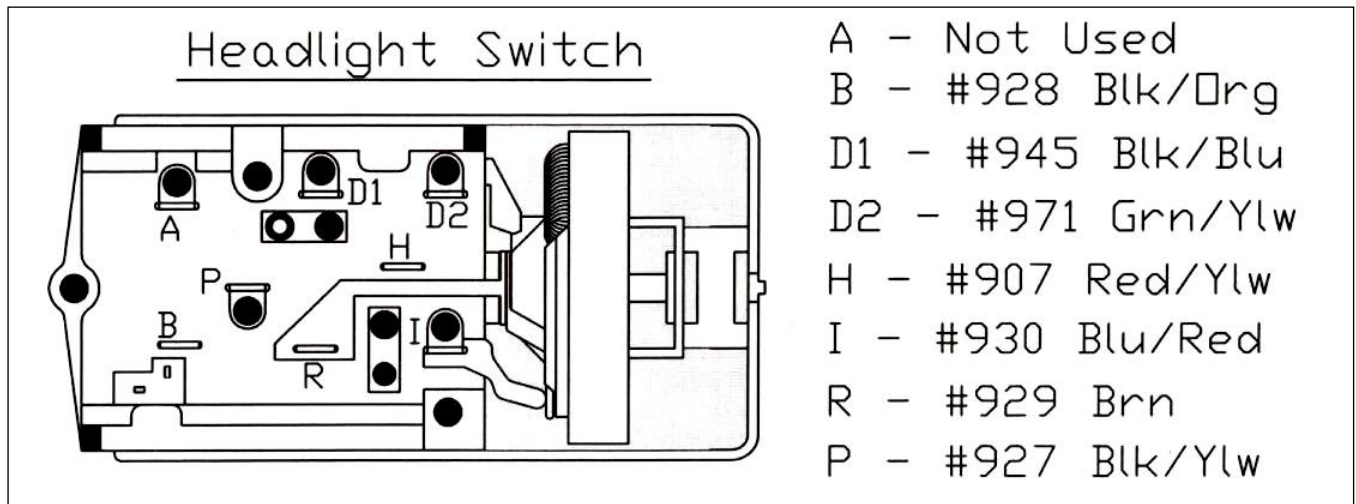

Figure 7-18 Headlight Switch Connections (All Models)
- 7.8.1** Connect the HEADLIGHT SWITCH connector to the headlight switch. **Figure 7-18** has been provided to help troubleshoot any issues. After completing the installation of the Headlight Switch wires locate the DASH GROUND wire, which is directly above the steering column in the main body of the harness and connect it to the chassis ground screw behind the gauge cluster.